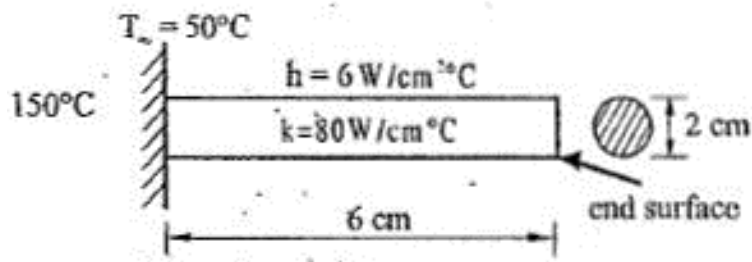

Figure-10
b) Solve for the temperature distribution in the one dimensional fin shown in the figure-10